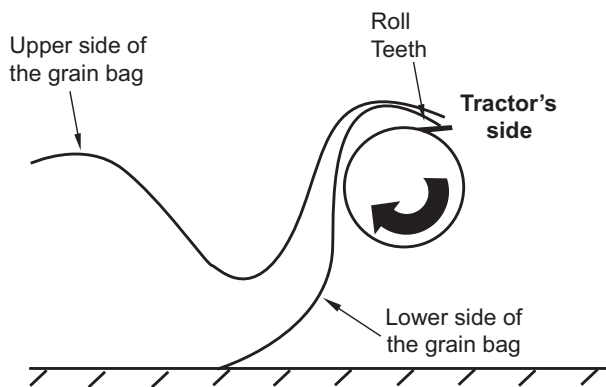

Figure 5.13 - Location of the roll teeth
- 1) Turn the roll using the tractor's hydraulic system until the roll teeth reach the position shown in the figure 5.13